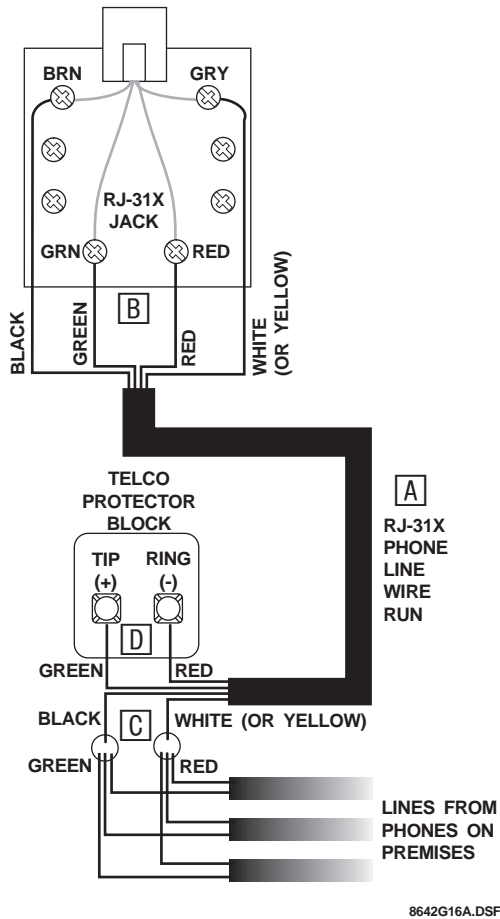

Figure 19. Installing an RJ-31X Phone Jack
1. Run a 4-conductor cable from the TELCO protector block to the jack location (see **A** in Figure 19).
2. Connect one end of the cable to the jack (see **B** in Figure 19).
3. At the TELCO protector block, remove the premises phone lines (lines from phone jacks on premises) from the block and splice them to the black and white (or yellow) wires of the 4-conductor cable (see **C** in Figure 19).
4. Connect the green and red wires from the 4-conductor cable to the TIP (+) and RING (-) posts on the block (see **D** in Figure 19).